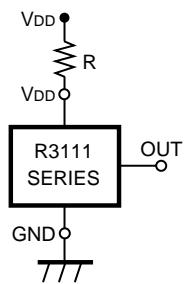

Figure 9
1. In Figure 9, When R3111xxx1C is used, and if an impedance is connected in between Voltage Supplier and the VDD Pin of R3111xxx1C Series, the operation might be unstable by through-type current at detection. When R3111xxx1A is used in Figure 9, if the value of R is set excessively large, voltage drop may occur caused by supply current of IC itself and Detector threshold may vary.